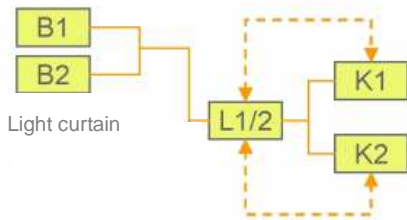

Figure 2
- The functional channel can be represented by a light curtain actuating two semiconductor switches (i.e. B1 and B2) that would correspond to the input (see figure 2).
- The start functionality (S) can be realized as well by means of a PLC output. Re-start is not considered safety relevant operation. If the light curtain is interrupted re-start has no effect.